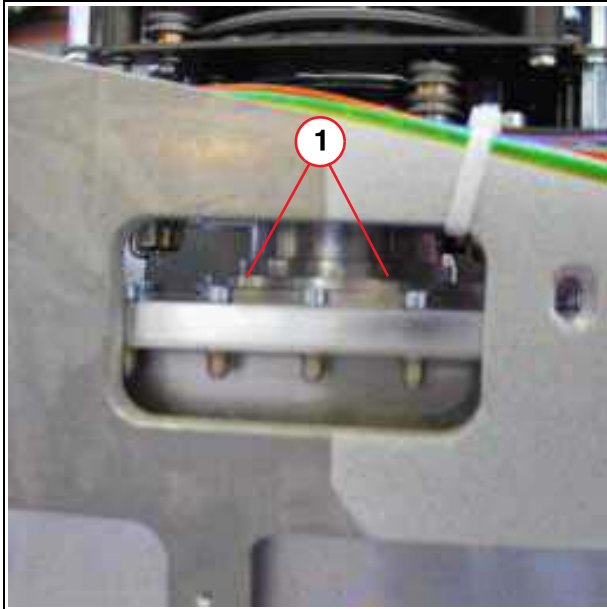

Fig. 11: Collimator\_mount
4. Remove the 4 ISK screws from the collimator and remove the collimator (1/Fig. 11 / p. 33).
4. Attach the collimator with the 4 ISK screws (1/Fig. 11 / p. 33).